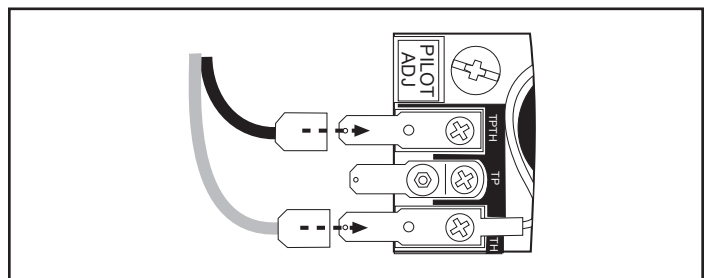

Figure 42 - Attach switch wires to valve.
3. Attach wires to valve terminals. (Figure 42)
2. Connect the thermostat wires to the valve. (Figure 42)